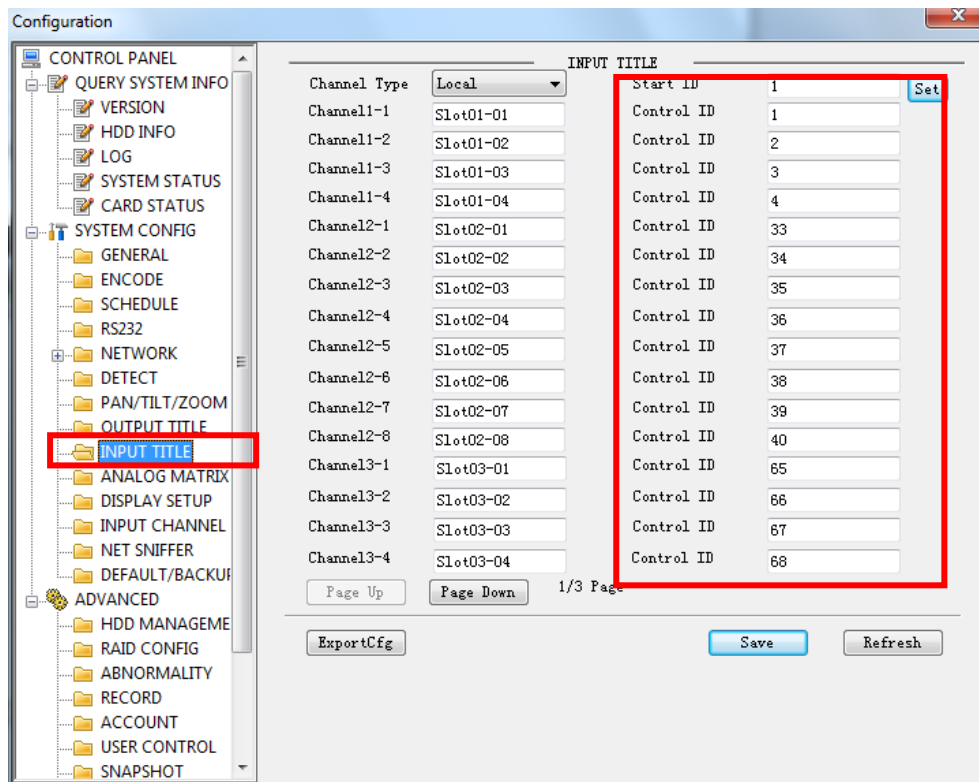

Figure 7-2
- From **【Setting】** -> **【Input Title】** , you can edit the corresponding control SN of the local input signal. See Figure 7-2.